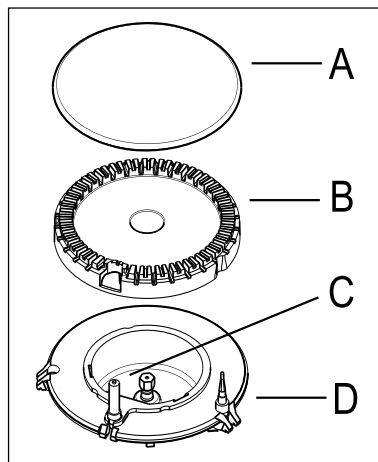

Fig. 1
- Upon ignition, keep the knob pushed down about **5 seconds**. This will allow the "thermocouple" (Fig. 1 - letter **D**) to be heated and the safety device to be switched off, otherwise the gas supply would be interrupted.
The electric ignition is obtained through a ceramic electrode which contains a metal electrode (Fig. 1 - **C**). Keep these components very clean, to avoid difficult lighting, and check that the burner crown holes (Fig. 1 - **B**) are not obstructed.